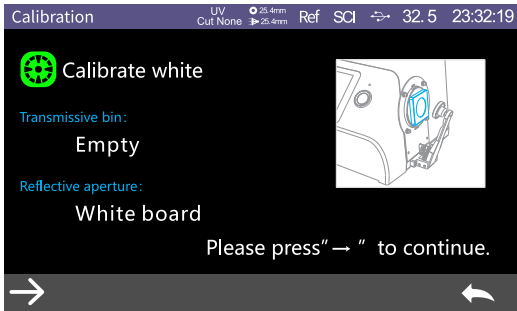

Figure 6 Reflective White Calibration
- 4、It will automatically enter White Calibration after Black Calibration is finished as shown in Figure 6. Place well white plate (same steps as how to place black cavity), then press test key to start white calibration, or click  to quit the white calibration.